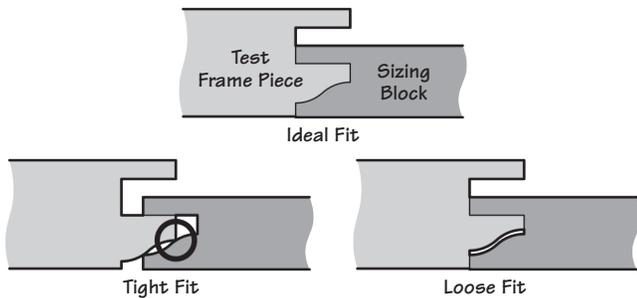

Figure 5: Testing the cutter spacing.
3. Use the sizing block to check the spacing of the cutters. (See **Figure 5**.) If the test piece is too tight or does not fit into the sizing block, shims between the cutters need to be removed. If the fit is too loose, more shims must be added. Repeat the test cut until a satisfactory fit is achieved. Make a note (on the sizing block) of the number (or thickness) of shims used for future reference.